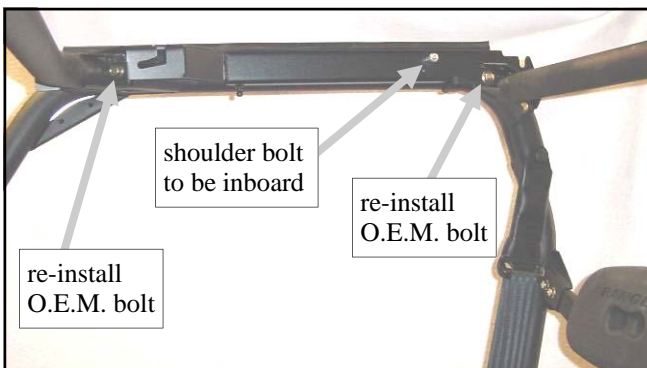

Fig. 1.3 (view from driver's side)
1.3 Per figures 1.3 and 1.3.1, install the passenger's side top mount oriented as shown (the ball stud will be towards the front). Re-install the original hex head bolts that were removed in step 1.1 above. Tighten both bolts.